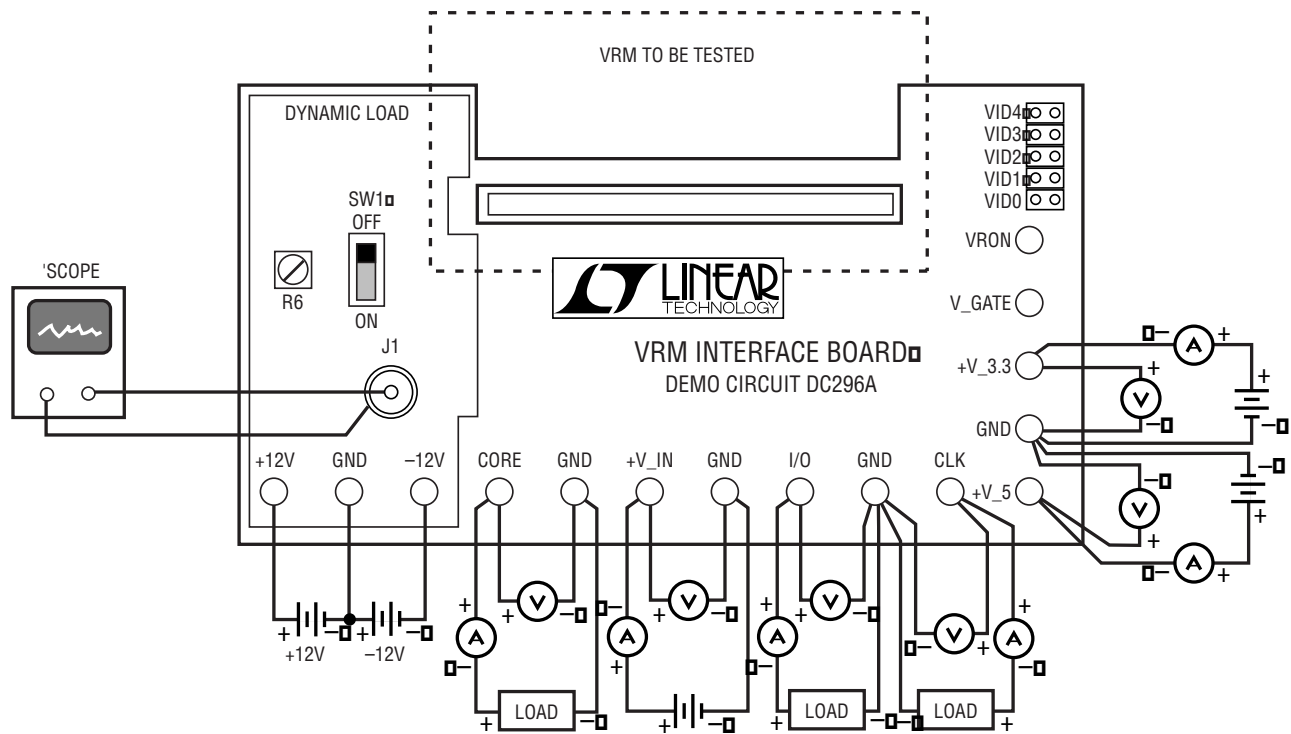

Figure 1. DC296A Hookup Diagram
1. Before turning on power, connect the input power supplies, output loads, oscilloscope and meters, as shown in Figure 1. For best accuracy, it is important to connect true-RMS reading voltmeters directly to the PCB terminals where the input and output voltages are connected. True-RMS reading ammeters should be used for current measurements.